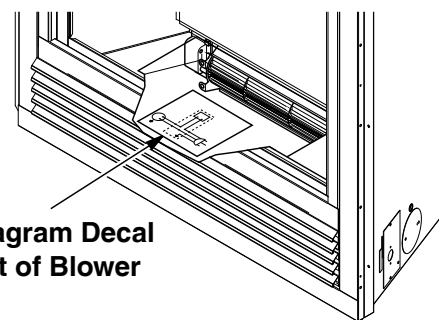

Figure 36 - Locating Wiring Diagram Decal
10. Peel off the backing paper and stick the supplied wiring diagram decal on the firebox bottom approximately 6" in front of the blower (see **Figure 36**).
- Peel off the backing paper and stick the supplied wiring diagram decal on the firebox bottom approximately 6" in front of the blower (see **Figure 36**, page 18).